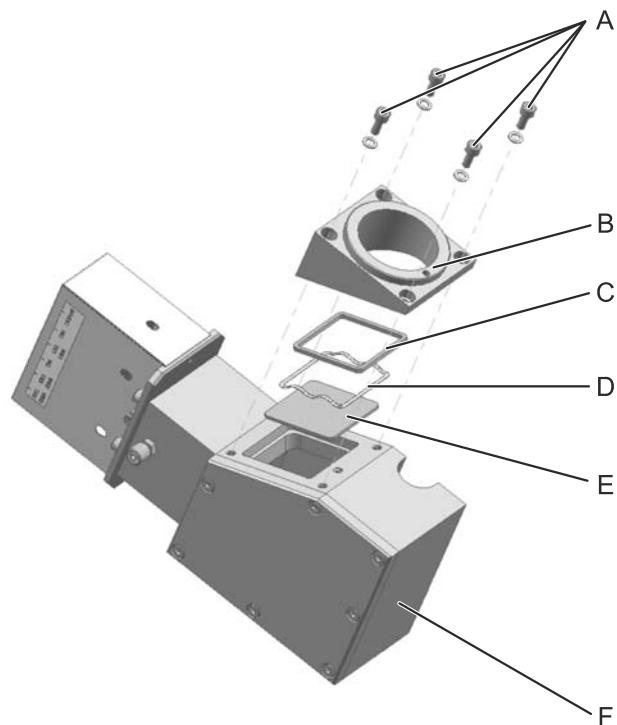

Figure 122: Removing the beam splitter
4. Use the 3 mm allen key to remove the four screws and their washers (see Figure 122, A) and lift off the aperture plate (B).
Key to Figure 122:
11. Insert the spacer (see Figure 122, C).
12. Use the 3 mm allen key to carefully refit and tighten the aperture plate (see Figure 122, B).